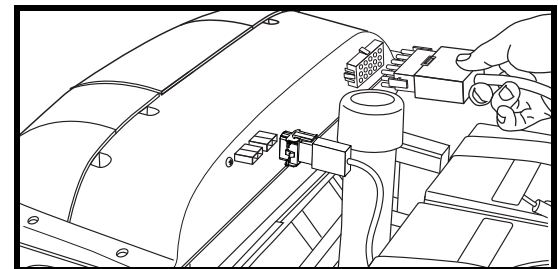

Figure 20. Disconnecting The Front-To-Rear Harness
6. Unplug the front-to-rear harness from its mating plug. See figure 20.